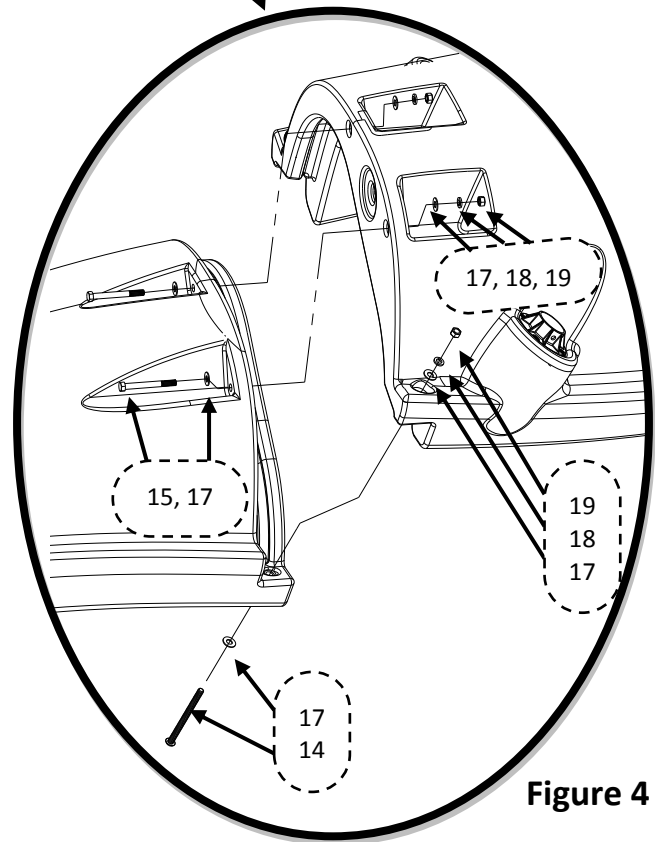

Figure 4
c. Begin by installing the hardware through the outside rails of the runway. Insert a (#14) 5" Button Head Screw with a (#17) Flat Washer through each side rail as shown in Figure 4. Fasten each screw using a (#17) Flat Washer, (#18) Lock Washer, and (#19) Hex nut. Do not fully tighten at this point.
d. Next, insert the hardware through the holes in the bottom of the runway parts. Insert a (#15) 3.5" Hex Head Screw with a (#17) Flat Washer through each hole as shown in Figure 4. Fasten each screw using a (#17) Flat Washer, (#18) Lock Washer, and (#19) Hex nut.